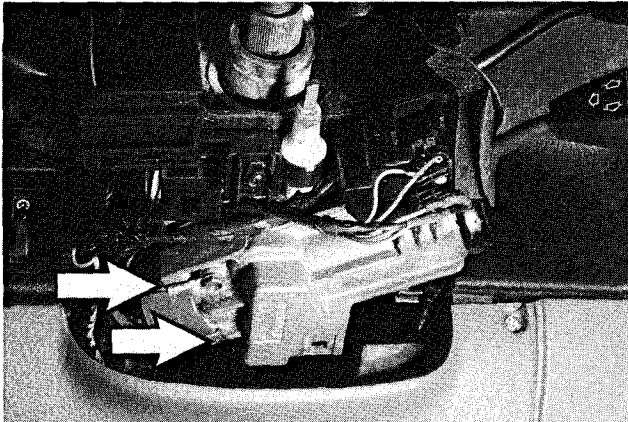

Fig. 6. Ignition switch set screws (arrows).
4. Clean away colored sealer from ignition switch set screws and remove slotted set screws on both sides of switch. See Fig. 6.